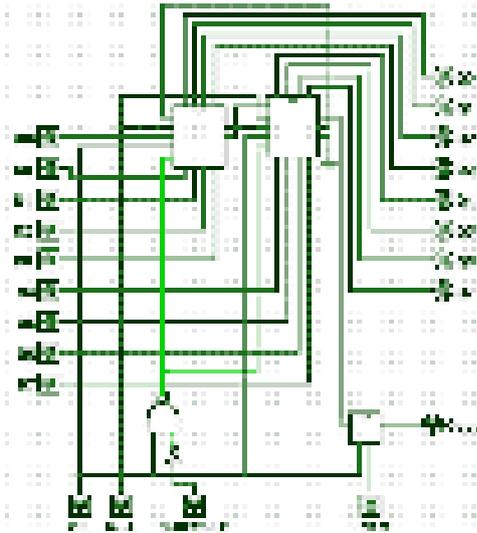

Fig. 5.8.6 The ALU Shift Register Component
This component uses two 4-bit shift registers (from Module 5.7) connected in cascade as shown in Fig. 5.8.6. Inputs are provided for clock pulses, (CK), a right/left shift control (R/~L) and an input to control whether the shift register is in shift, or load-enable modes (SHIFT/~LE).